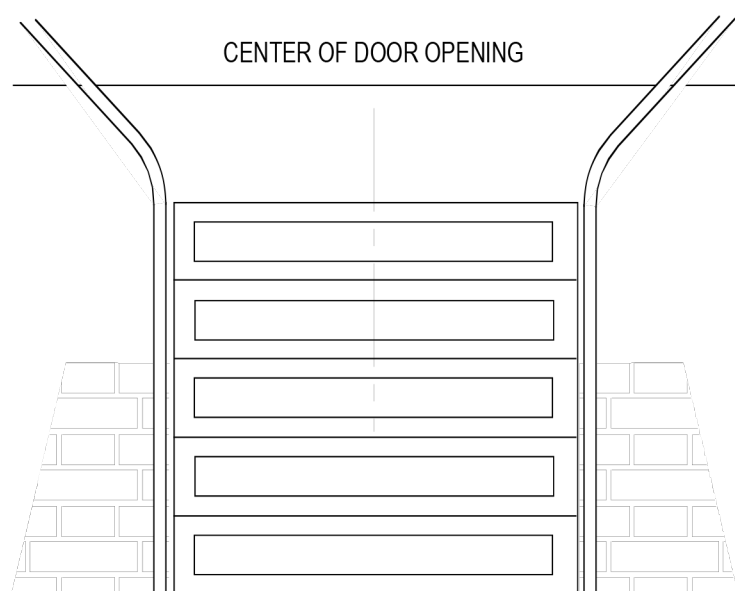

Figure 7
1. Locate the center of the door and mark a line on the wall directly above the door. Extend this line approximately 20" up the wall. See Figure 7.
3. Using the projected lines for location, mount a suitable wood block or angle iron, depending on the structure of the building, to the wall above the door opening as shown in Figure 7. Ensure the block or angle iron used will provide a sound and secure mounting pad for the operator track front mounting bracket, see warning below. Drill the required holes for mounting the operator track front mounting bracket as shown in Figure 9 on following page.